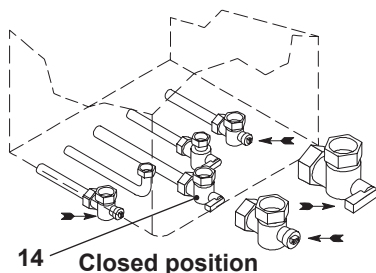

Fig. 2.11
- Shut off the gas supply cock 14 and the valves for the water circuits fitted under the boiler (Fig. 2.11).